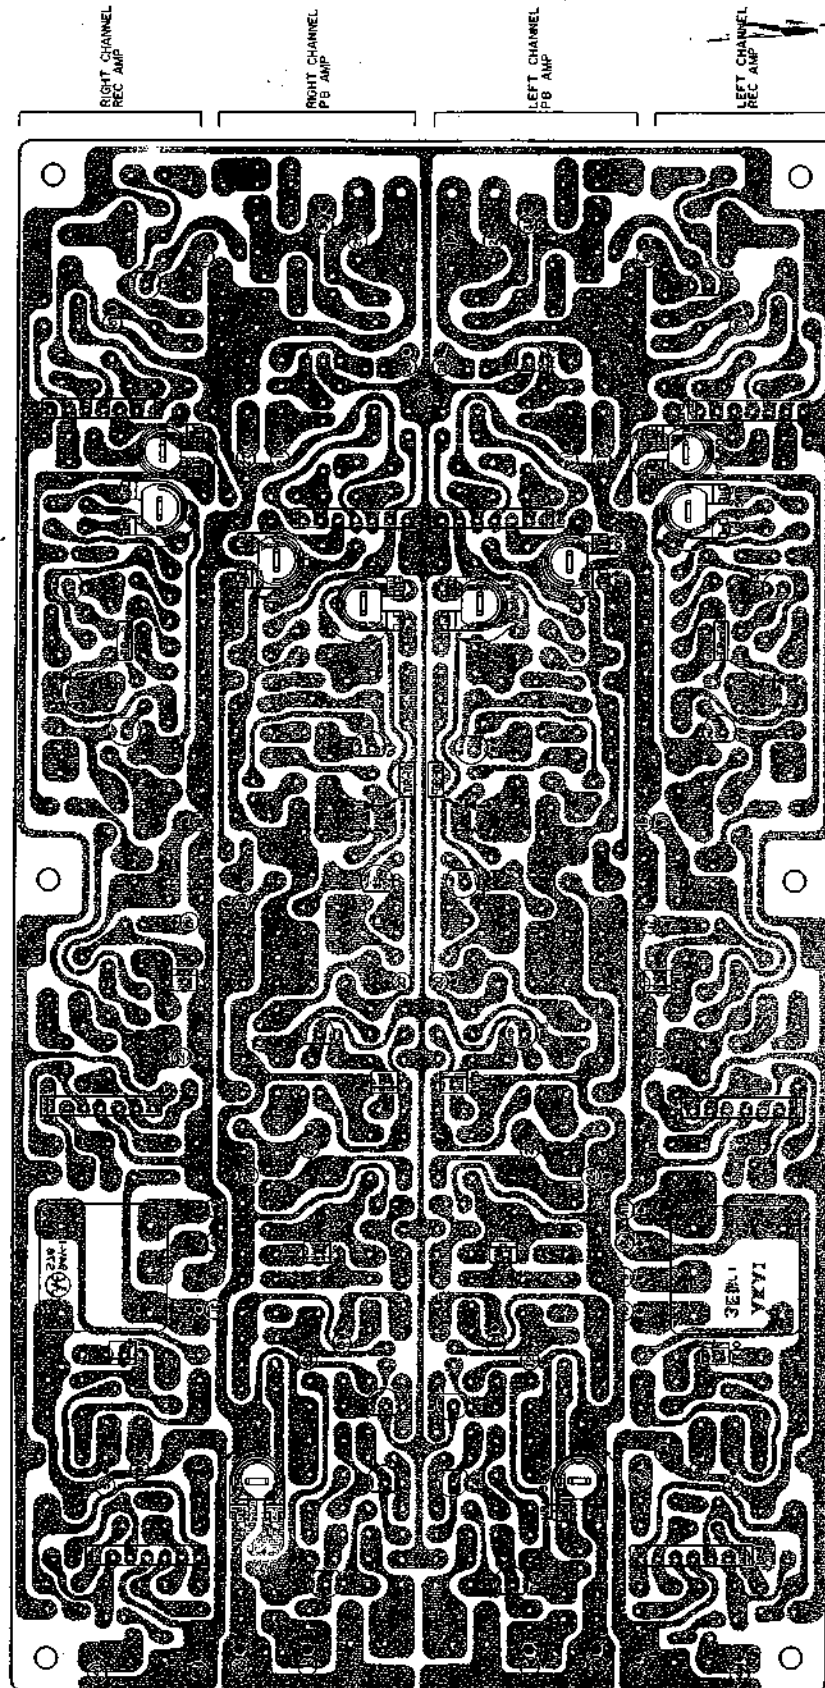

Fig. 22 Pre Amp P.C Board CA-5205
I. RECORDING/PLAYBACK AMPLIFIER ADJUSTMENT (Refer to Fig. 22, 23 and 24 and Chart 1)
ADJUSTMENT (Refer to Fig. 22)
(Refer to Fig. 22)
- 6) Disconnect Test Point TP2 from ground and adjust semi-fixed resistor VR5 (5 k Ω) shown in Fig. 22 to obtain a -22 dBm level at center terminal of Rec Level Volume.